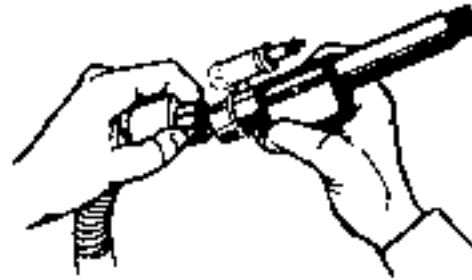

Figure 6
4. Firmly tighten hose connector by hand (see Figure 6).